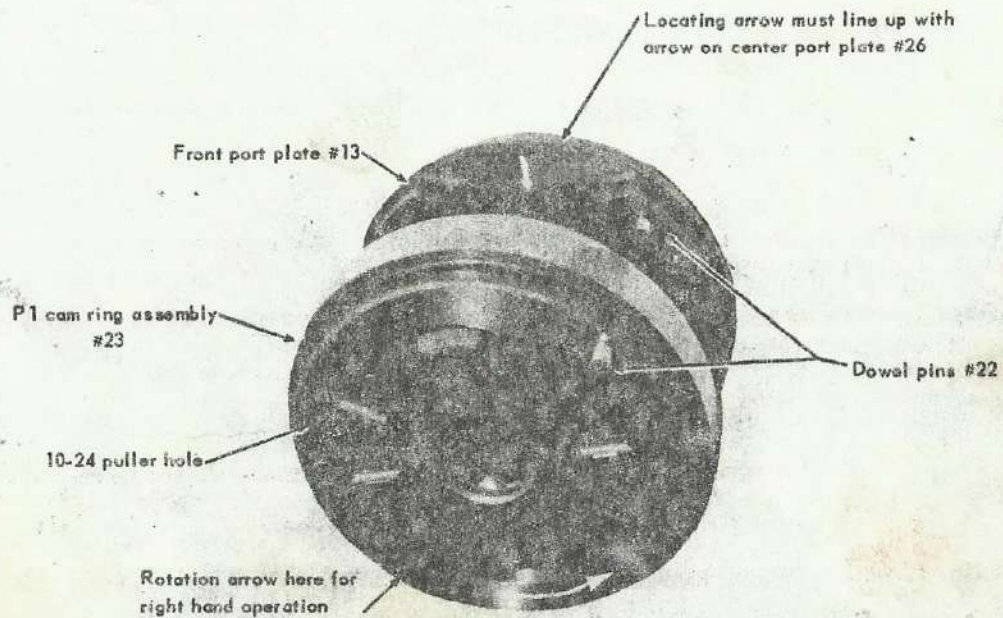
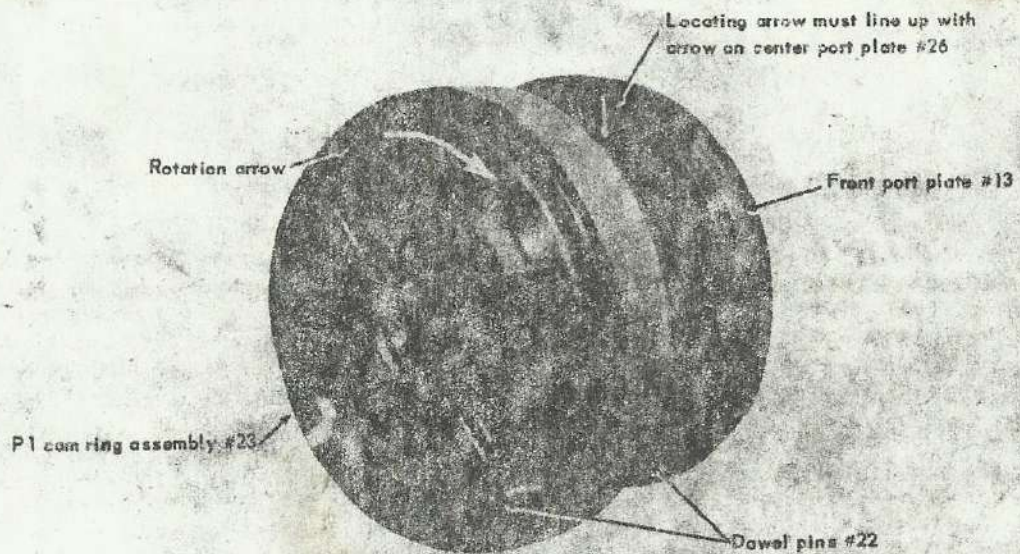
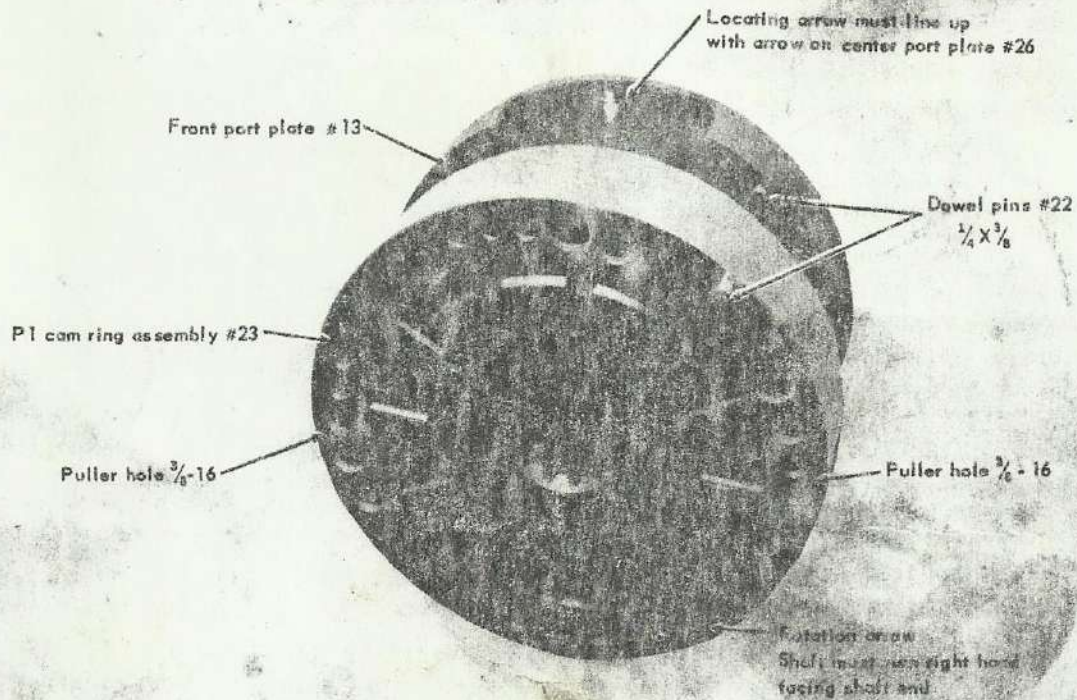
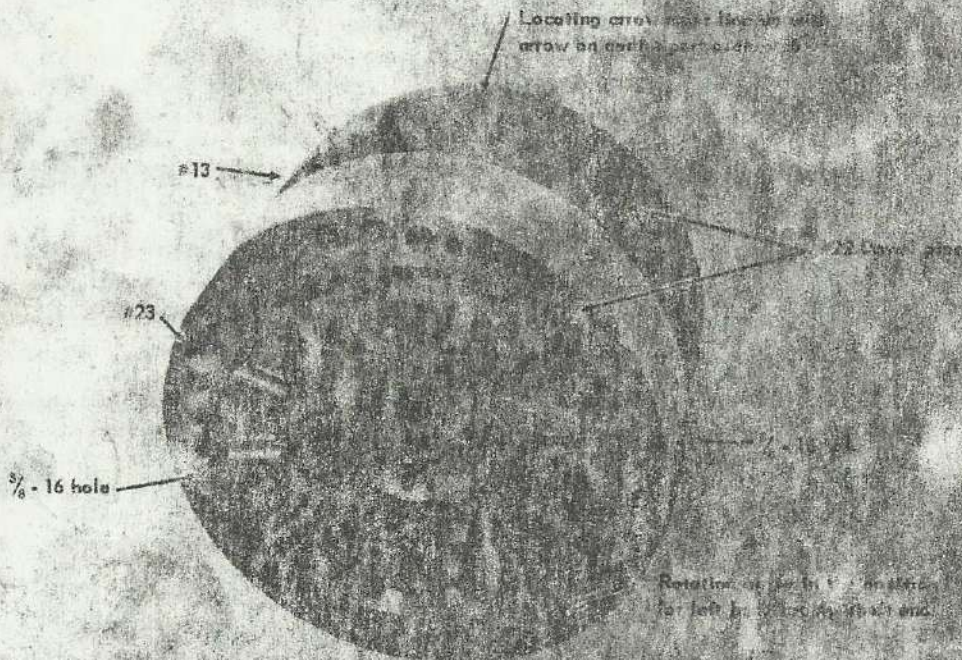

Fig. 4 Above parts must be assembled in this manner in the mounting cap end over the pump shaft for right hand operation.
Fig. 5 Above parts must be assembled in this manner in the mounting cap end over the pump shaft for left hand operation.
Fig. 6 Above parts must be assembled in this manner in the mounting cap and over the pump shaft for right hand operation.
Fig. 7 Above parts must be assembled in this manner in the mounting cap and over the pump shaft for left hand operation.
8. Install "O" rings (12) and (15) in mounting cap (11). Place heavy grease on both "O" rings. Install "O" ring (14) on front port plate (13). Place heavy grease on "O" ring. Position mounting cap and shaft assembly on work bench with coupling end of shaft extended down.
9. Place wavy washer spring (16) against retaining ring (17) and insert front port plate (13) into the mounting cap (11) taking care not to damage the "O" rings. Do not press port plate into position until porting is determined. The arrow on the front port plate (13) must line up with the arrow on the center port plate (26). For proper assembly of TDC pumps see Fig. 4 for right hand operation and Fig. 5 for left hand operation. For proper assembly of TEC & TED see Fig. 6 for right hand operation and Fig. 7 for left hand operation.
10. Insert 1 dowel pin of (22) in proper hole in front port plate (13). Check Fig. 4, 5, 6 or 7 again and place cam ring assembly (13) over pump shaft and over dowel pin (22). Place other dowel pin (22) in cam ring directly over the pin in the front port plate.
11. Place the center housing (28) and the attached parts over the splined shaft. Line up the arrow that is visible thru the large inlet port with the arrow on the center port plate. Dowel pin (22) should be seated in the proper hole in port plate (26) when the arrows match.
12. Rotate the center housing (28), cam ring assembly (23) and front port plate (13) on the mounting cap (11) until the pressure outlet in (11) is in position for the desired porting. Install bolts (10) and tighten evenly. Torque to 130 ft. lbs on the TDC and 230 ft. lbs on the TEC.
13. Check Fig. 4 or 5 and insert 1 of dowel pin (8) in the proper hole in the small side of the center port plate.
Thread two 10-24 screws into P2 cam ring assembly (9) and place over the shaft and on dowel pin (8) as indicated in Fig. 4 or 5.